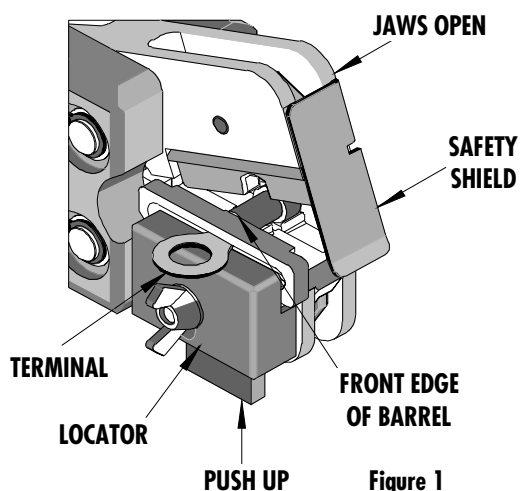

Figure 1
2. Insert the wire into the terminal. Push up on the locator blade and push the terminal and wire with the barrel facing up into the color-coded nest with front edge of the barrel against the locator (See Figure 1). Release the locator blade to hold the terminal in position.